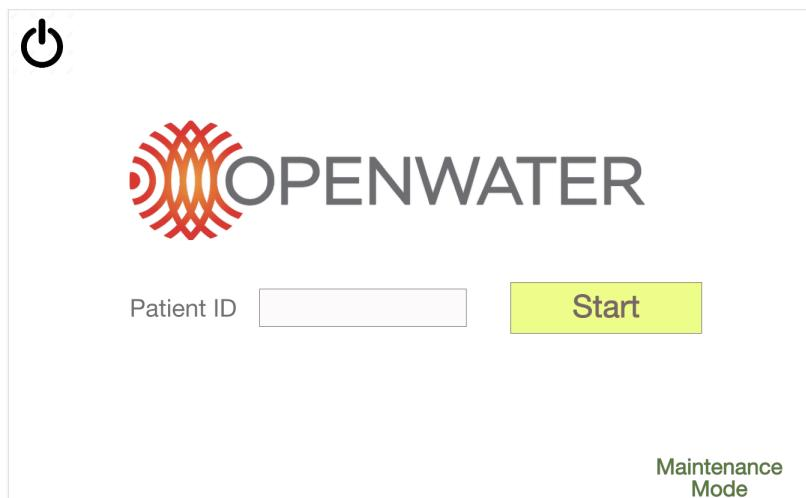

Figure 11: Home screen of GUI.
- On the GUI, using the alphanumeric touchscreen keyboard that is activated when the “Patient ID” field is touched, enter the patient ID and then press start (refer to Figure 11).
2. Press the home button and turn off the system by pressing on the power button on the top left corner of the screen as shown in Figure 11.
- To enter the maintenance mode, click on the 'Maintenance Mode' button on the lower right corner of the Home Screen as displayed in Figure 11.